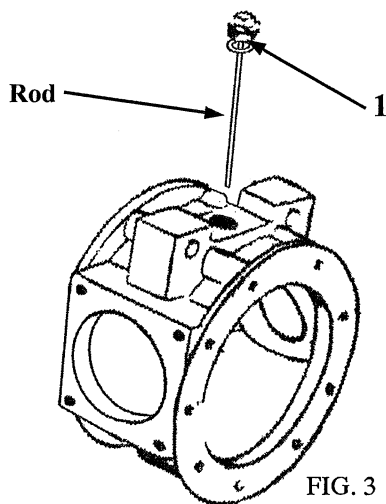

FIG. 3
- Check for oil level in gearbox. This is carried out by unscrewing the plug located on top of the box itself (1 of fig. 3) and checking the oil level through the rod with which the plug itself is equipped. The correct oil level positions at the middle of the rod itself.